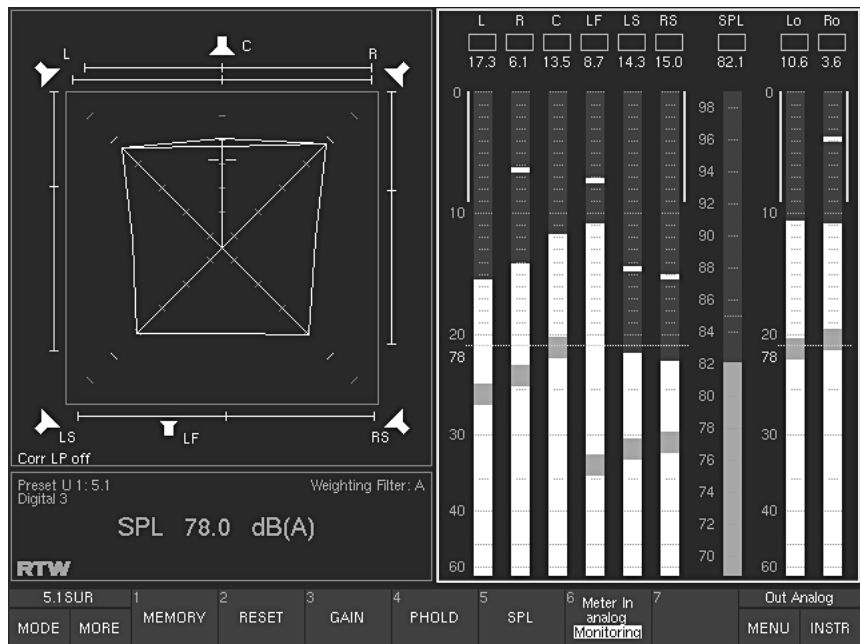

Fig. 5-7: The functions of the PPM instrument displayed in the Toolbar
(Button/Key 1, see Fig. 5-7)
(Button/key 2, see Fig. 5-7)
(Button/key 3, see Fig. 5-7)
(Button/key 4, see Fig. 5-7)
(Button/key 5, see Fig. 5-7)
(Button/key 6, see Fig. 5-7)